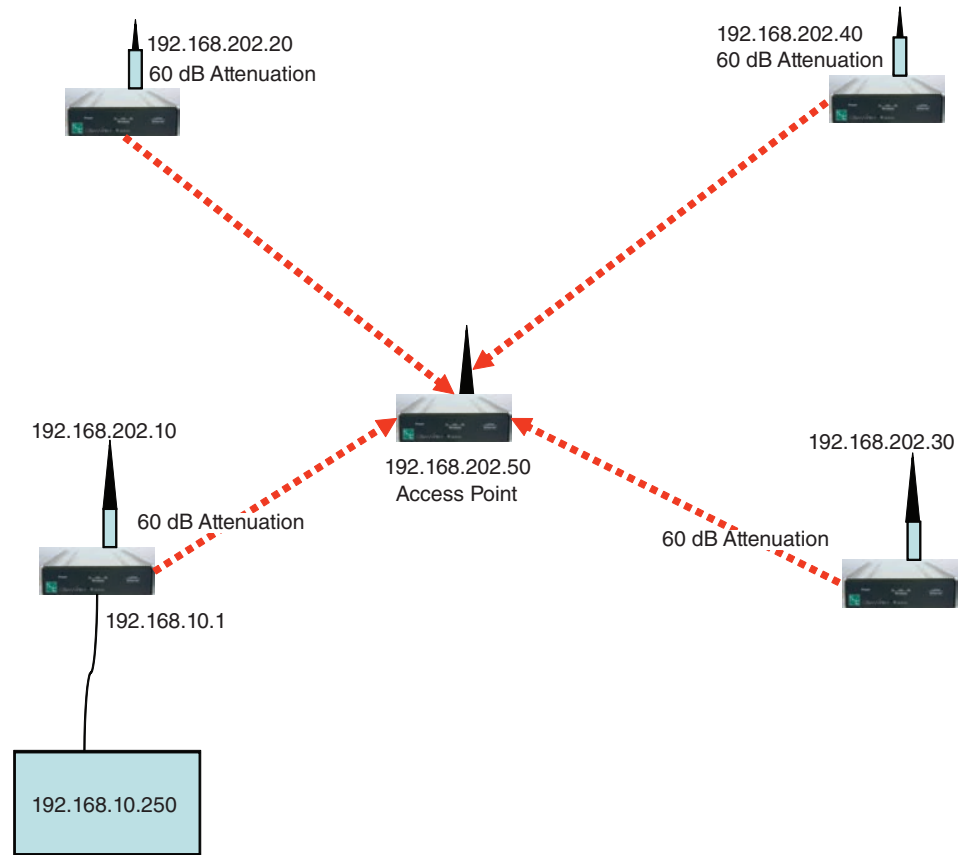

Figure 44. Point-to-multipoint network.
STEP 1. Configure the radio network as shown in Figure 44.